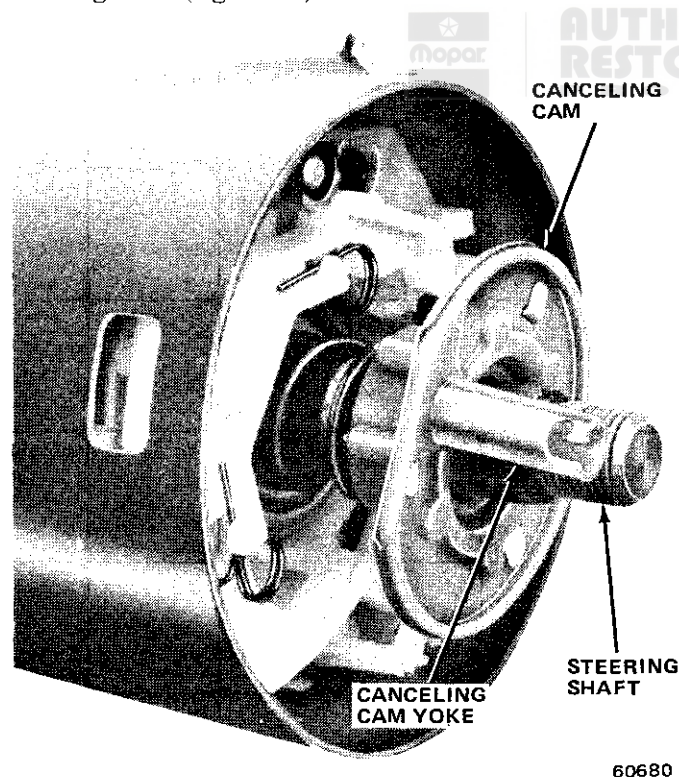

Fig. 2J-24 Positioning Cancelling Cam
**CAUTION:** Identify the steering shaft nut thread type before using the compressor tool. If the shaft has American threads, use the compressor tool as is. However, if the shaft has metric threads (fig. 2J-2), replace the compressor tool forcing screw with Metric Forcing Screw J-23653-4 before using the tool.
(28) Install lock plate cover.
(29) Remove Support Fixture Tool J-23074 if installed.
(30) Install column mounting bracket. Tighten bracket attaching bolts to 20 foot-pounds (27 N•m) torque.
(31) Connect column wiring harness connectors and install harness protector.
(32) Install steering wheel.
(33) Install and tighten steering wheel nut to 30 foot-pounds (41 N•m) torque.